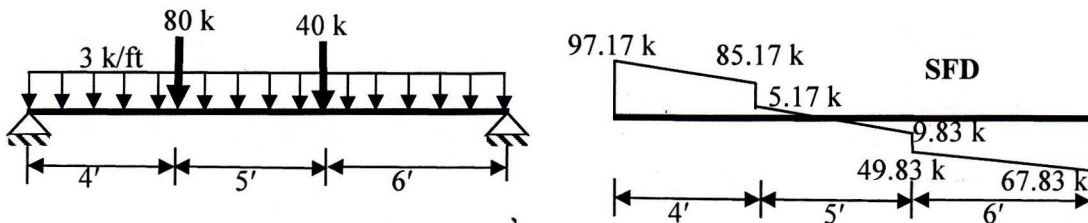

Figure: 05
6. (a) Explain why the critical shear to be considered for design is computed at a distance of “ d ” from the face of support. (02)
- (b) Figure: 05 shows the SFD of a rectangular beam with a cross-section having 16 in. width and an effective depth of 22 in. It is reinforced with 6 in² of tensile steel, which continues uninterrupted into the supports. Design the vertical stirrups for the beam and make the details. All loads are factored load. (08)